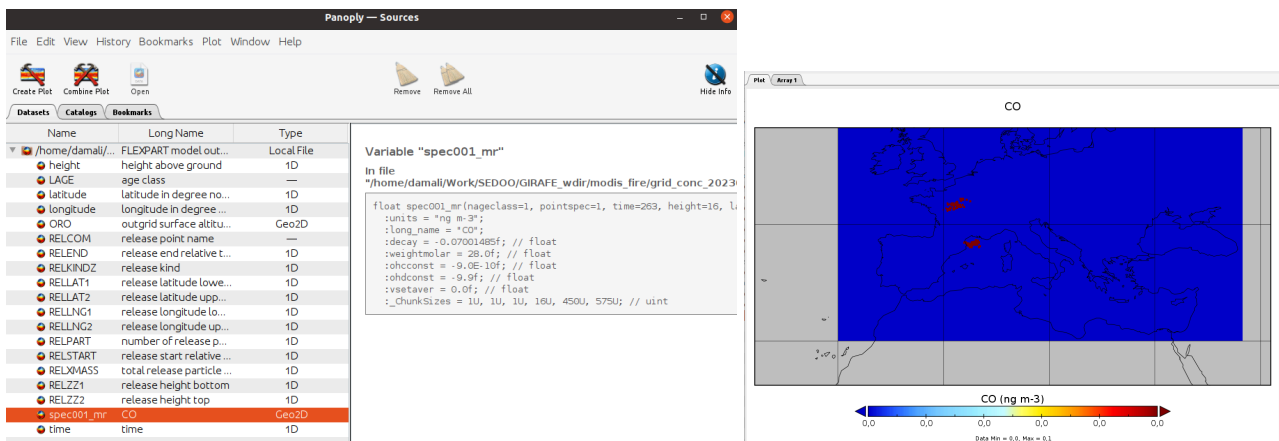

Figure 3 : FLEXPART output in netCDF format, opened with Panoply
By default, FLEXPART output is written in the native binary format. However, FLEXPART v10.4 can also support output in NetCDF format if the NetCDF libraries are installed. To activate NetCDF support, the option `ncf=yes` must be appended to the compilation `make` command. Only one NetCDF file is written; this file contains all species and all time steps. Since the NetCDF output is specified in the climate and forecast (CF) format, any standard software can be used for displaying and processing the output (Figure 3). NetCDF output data files are compressed. The NetCDF output file contains information on the run settings and the simulation grid from the `COMMAND` and `OUTGRID*` files.
The working directory of the simulation is the directory where input files for the simulation, the executable for simulation launch and the output of the simulation will be stored. This directory follows the structure describe on the Fig.3: